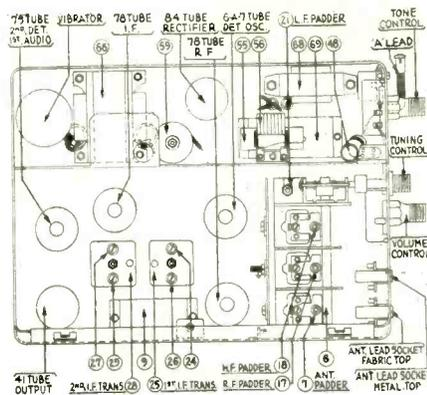

Fig. 2. Chassis layout of Chrysler Philco Model CT11, showing padder locations.
Adjust the secondary screw padder (29) on the second i-f transformer for maximum reading on the output meter. Then adjust the primary screw padder (27) for maximum reading. Padder locations are given in Fig. 2.